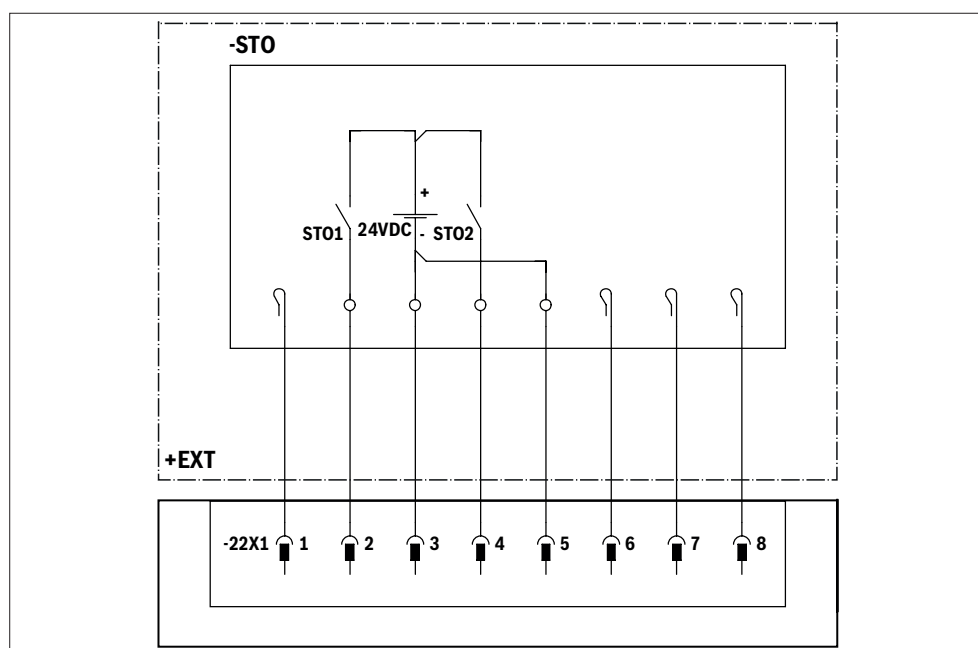

Fig. 18: Assignment of port 22X1: STO interface
- Assign the mating connector for the "Safe Torque Off" safety function as shown in Fig. 18.